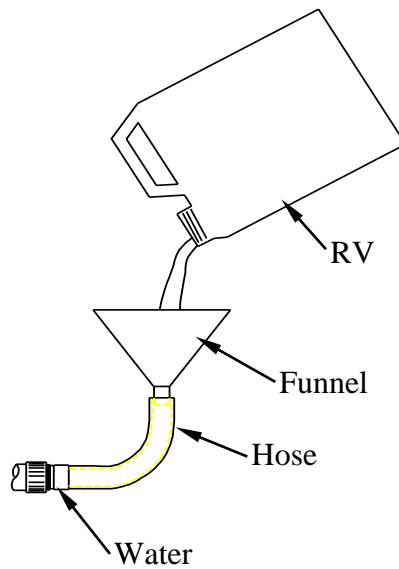

Figure 15
4. Attach the 12” garden hose piece with the funnel to the pump inlet. (Figure 15)